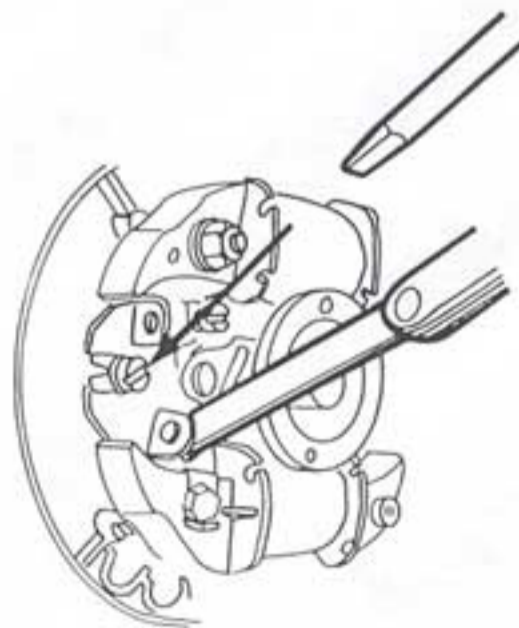

Fig. 2
- Slowly screw in the center screw of the puller and pull the cam off the crankshaft end (fig. 2).